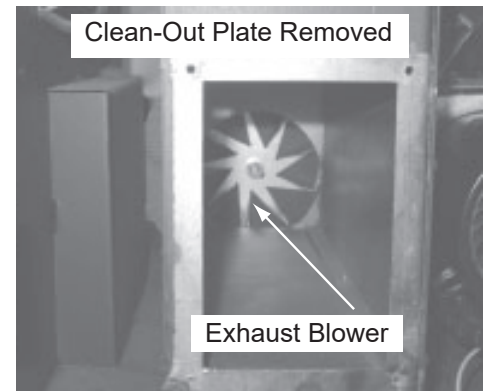

Figure 21.3
- c. Use a small vacuum hose attachment to clean area. **Figure 21.3.**